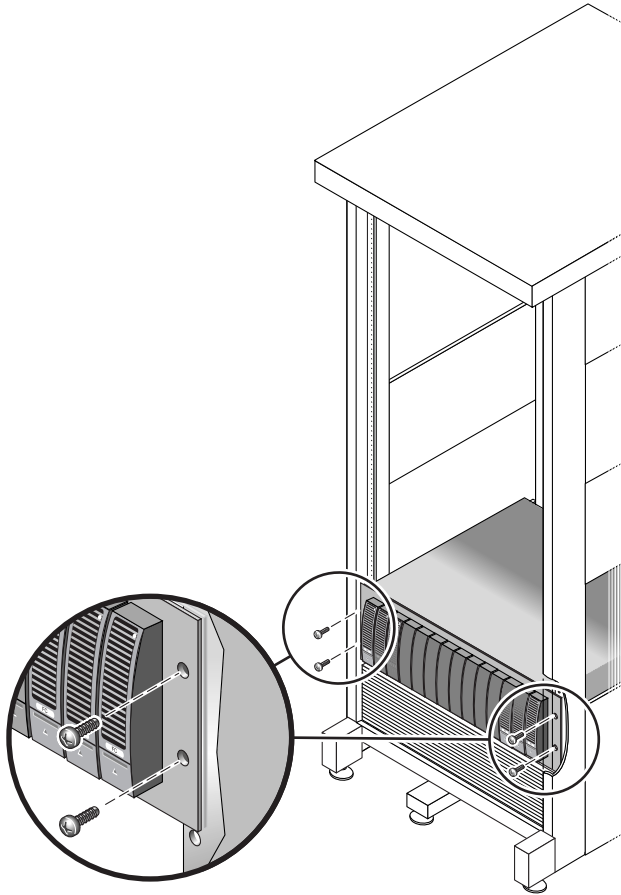

FIGURE 2-12 Securing the Enclosure to the Front of a Sun Rack 900/1000 Cabinet
- For a Sun Rack 900/1000 cabinet, use the No. 3 Phillips screwdriver to install and tighten four M6 screws (two per side) to secure the enclosure to the front of the cabinet (FIGURE 2-12).